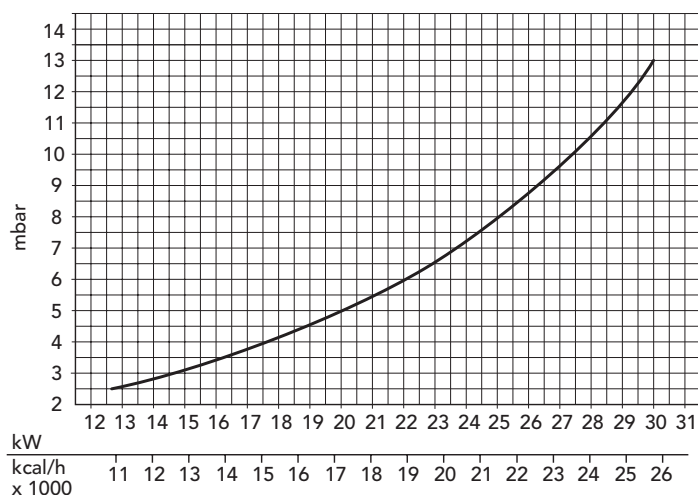

Fig. 4
N.B. - The gas pressures at the burner and gas flows during the central heating phase given in the table refer to nominal boiler output. To reduce this output (where necessary), gas pressure must be reduced until the required output level is reached (see figures 4 and 5).
To adjust boiler heat input (thus also regulating heat output to the central heating water) simply adjust the main burner via the electronic control board (fig. 4, 5 and see paragraph 5.04 page 24).